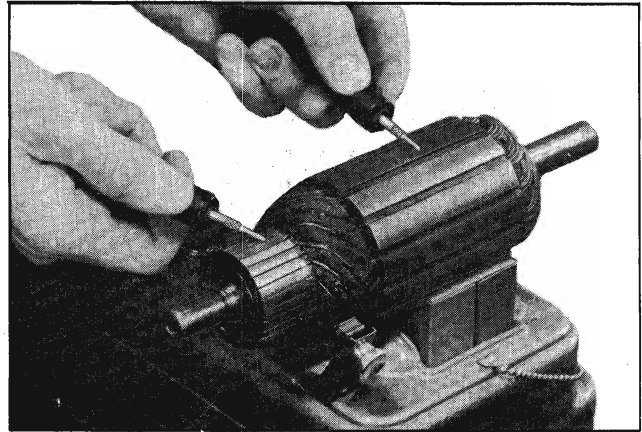

Fig. 11-13 Testing Armature for Ground
c. Using a 110-volt test lamp, place one lead on armature core and other on commutator. If lamp lights, armature is grounded and must be replaced (Fig. 11-13).